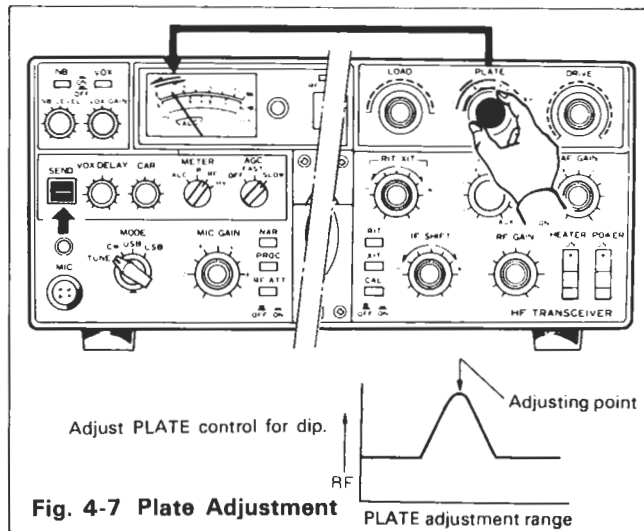

Fig. 4-7 Plate Adjustment
- \* 6. Place the **meter** switch to **Ip** and **dip** the **PLATE**. Dip will be typically only about 5 ma. (**or to RE and peak the Plate**) Fig. 4-7